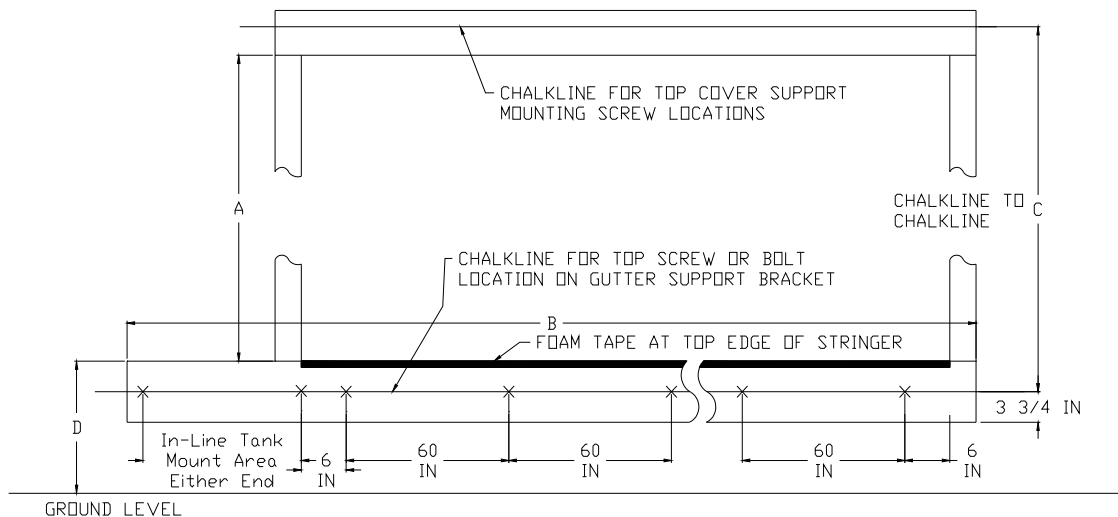
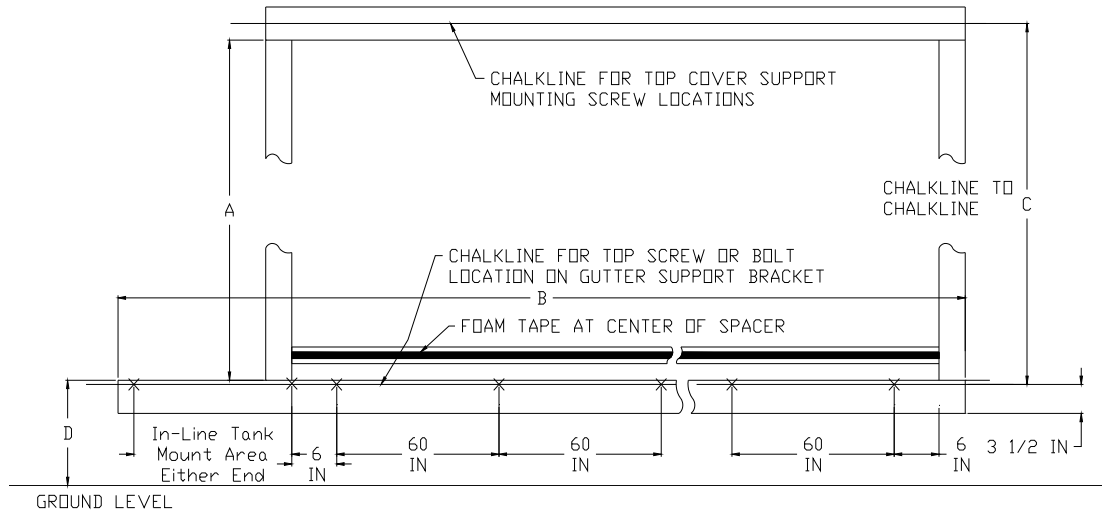

Figure 5
Figure 6
To locate the gutter support bracket position on the bottom stringer for the extruded gutter, refer to chalk line shown in Figure 5. The chalk line should be 3 3/4 Inches from the bottom of the stringer and run its full length. The chalk line will be used to locate the top hole position of the gutter brackets. Hole spacing is shown in Figure 5. The bottom stringer should be designed to hold up the weight as defined in Section IV paragraph C. The top header supports very little of the Kool Cel[®] weight.
To locate the gutter support bracket position on the bottom stringer for the extruded gutter, refer to chalk line shown in Figure 5. The chalk line should be 3 1/2 Inches from the bottom of the stringer and run its full length. The chalk line will
be used to locate the top hole position of the gutter brackets. Hole spacing is shown in Figure 6. The bottom stringer should be designed to hold up the weight as defined in Section IV paragraph C. The spacer and the top header is designed to support very little of the Kool Cel[®] weight.
1. Beginning at the pump end of the system, locate the position of the end of the system (see figure 15) and install the top cover support sections and the pipe hangers to the top stringer by lining up the top holes of the Top Cover Support sections with the chalk line (refer to Figure 5 and Figure 6) on the top stringer.